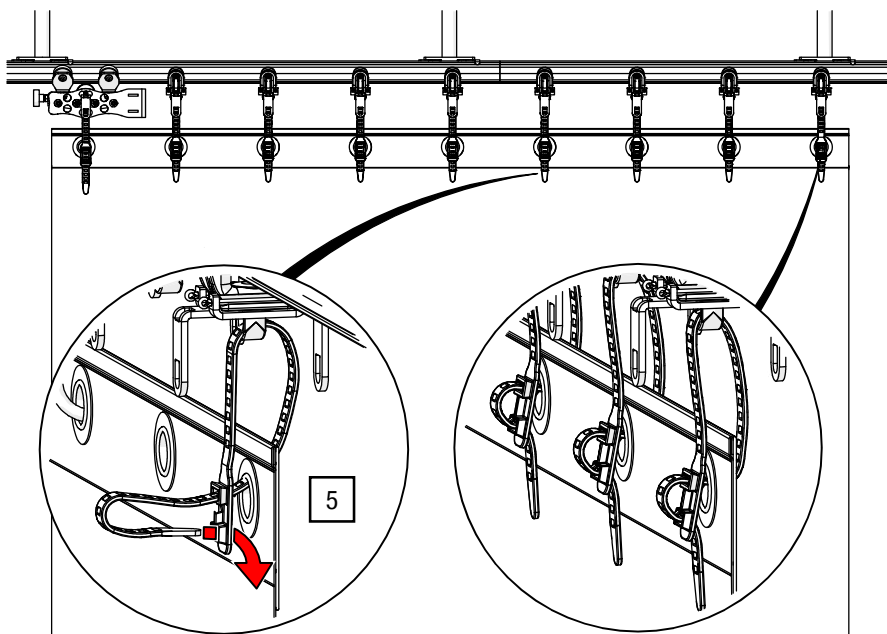

Fig. 106: Inner layers – Close soft tie
5. Adjust the inner layers flush with the floor, close the soft tie, and secure the end in the second hole (see Fig. 106).